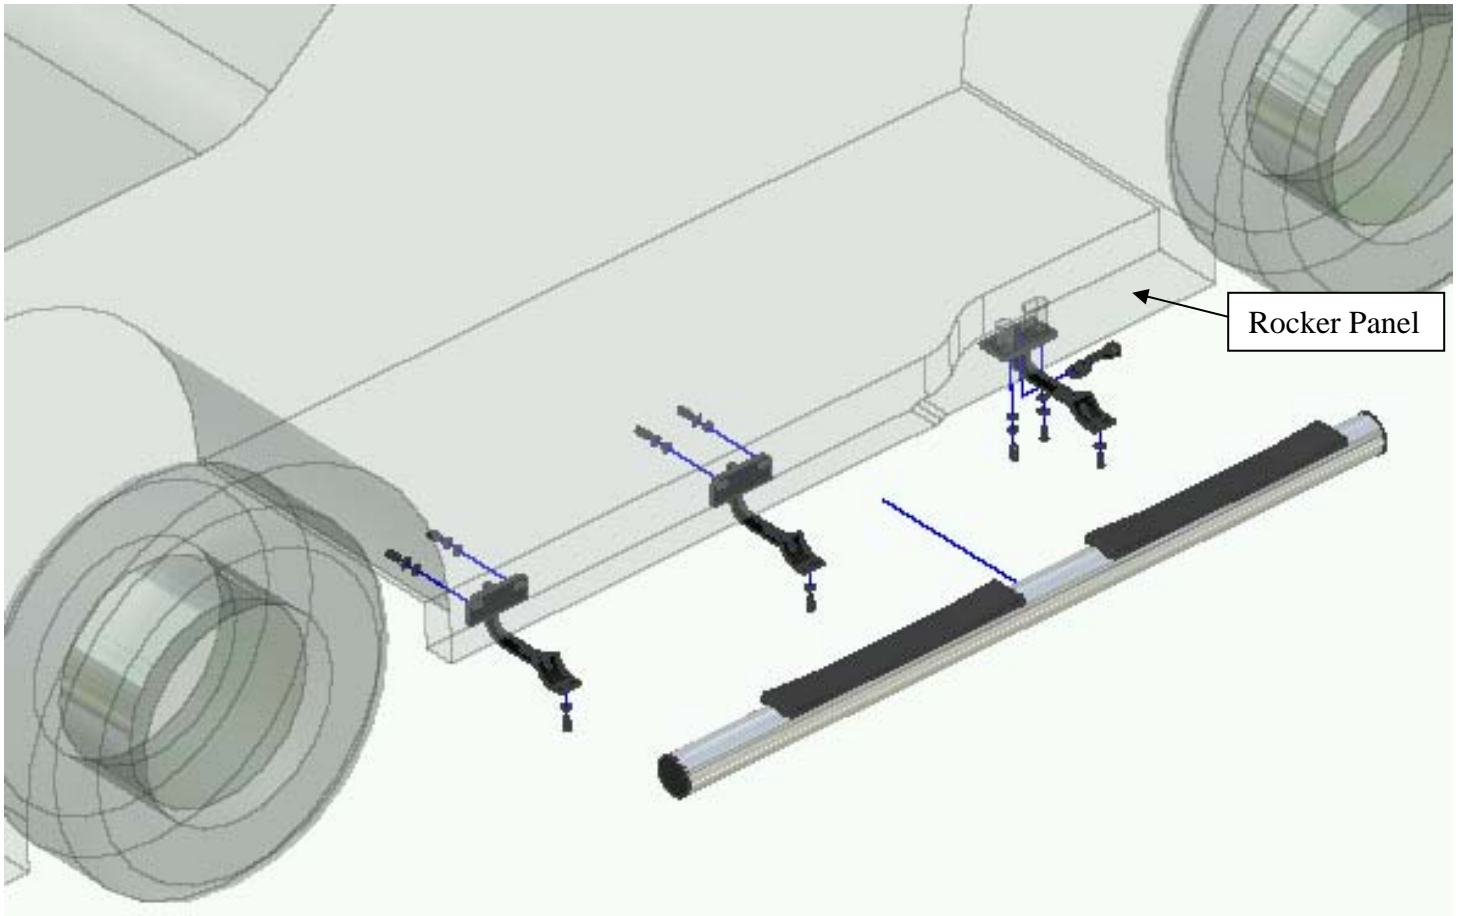
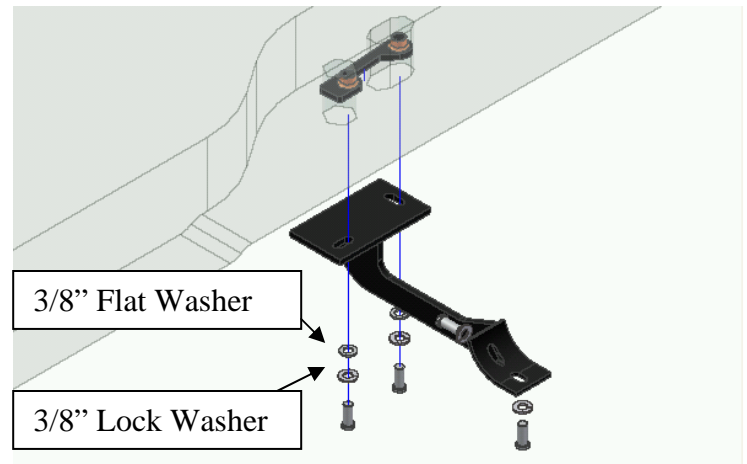

Figure 1.1 - Front Driver-Side View
Figure 1.3 - Rear Bracket
4. Locate the rear mounting holes (one slot and one hole) on the underside of the rocker panel, below the rear door. Insert (1) 3/8" Nut Plate into slot so holes of Nut Plate line up with mount holes on the vehicle(see Figure 1.3).
5. Attach rear bracket to vehicle rocker panel using (2) 3/8" – 16 x 1.50" Hex Head Bolts, (2) 3/8" Lock Washers, and (2) 3/8" Flat Washers. Hand tighten bolts through Nut Plate.
6. Attach side tube to brackets using (6) 3/8" – 16 x 1.00" Button Head bolts and (6) 3/8" Lock Washers. Hand tighten.
**Note:** Step Pad closer to the end of the tube goes to the rear. (see Figure 1.1).